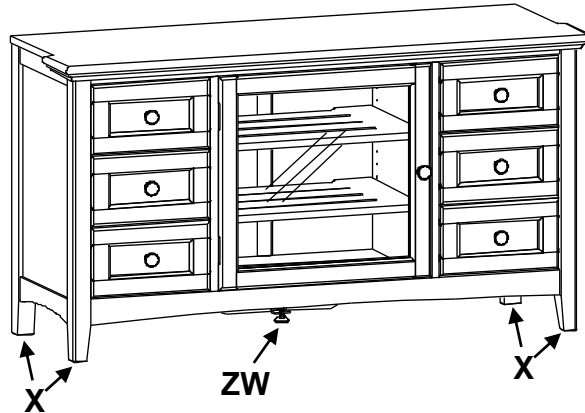

Fig. 1
1. Place the console at its final destination. Rotate the Adjustable Glides (X) found at the corners of the unit and (ZW) at the bottom of the Center Foot until the unit is level. See Figure 1.